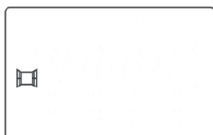

Fig. 5
- **Open window mode:** while the appliance is working press the button  for about 3 seconds until the symbol  appears on the display (fig. 5). The appliance will continue working in the selected mode. However, if within half an hour the temperature decreases (by around 10 degrees in comparison to the previously registered ambient temperature), the appliance will automatically switch off and will switch to Standby mode. To return to the previously selected mode, you need to press the button ; the symbol will disappear from the display.